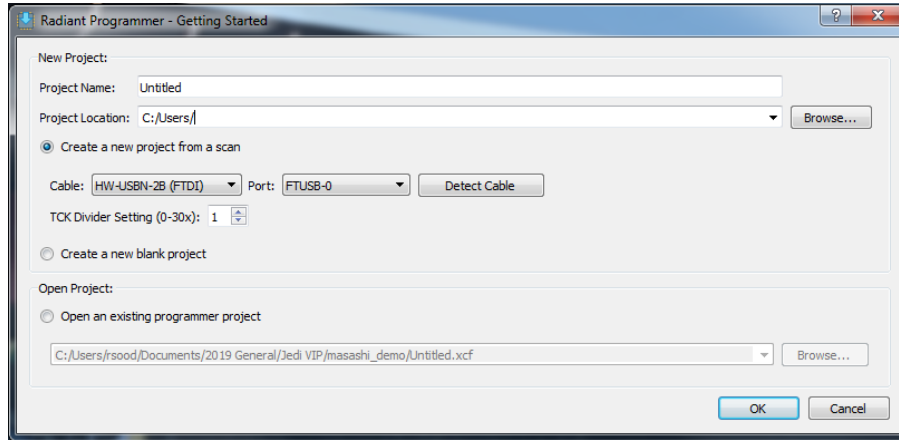

**Figure 3.5. Lattice Radiant Programmer Output Window**
6. Check the **Output** console at the bottom of Lattice Radiant Programmer for the result of the programming. You should see **Operation: Successful** as shown in Figure 3.5.